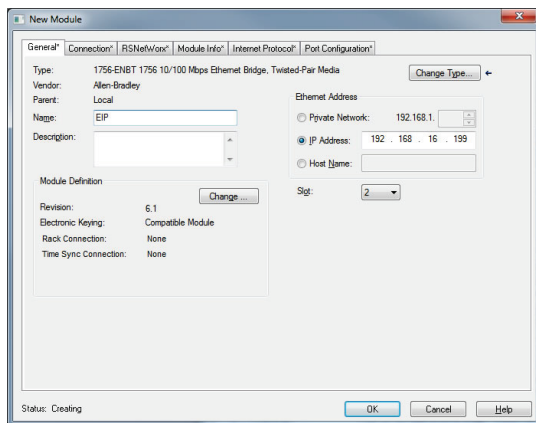

Figure 32: Identifying the New Module
- 6) The “New Module” window will open. Refer to Figure 32.